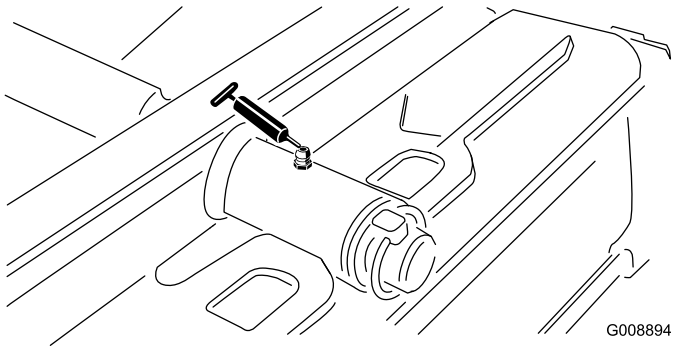

Figure 56
- Rear cutting unit pivot (Figure 56)